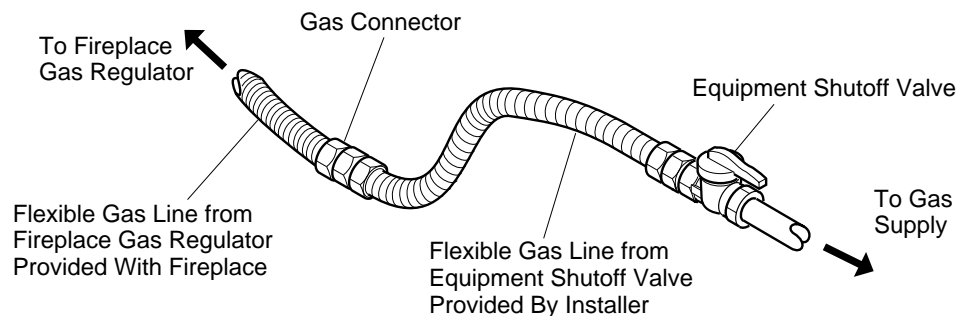

Figure 25 - Attaching Flexible Gas Lines Together
NOTICE: Most building codes do not permit concealed gas connections. A flexible gas line is provided to allow accessibility from the fireplace (see Figure 25). The flexible gas supply line connection to the equipment shutoff valve should be accessible.
4. Apply pipe joint sealant lightly to male threads of gas connector attached to flexible gas line (see Figure 25). Connect flexible gas line to flexible gas line attached to gas regulator of fireplace (see Figure 25).